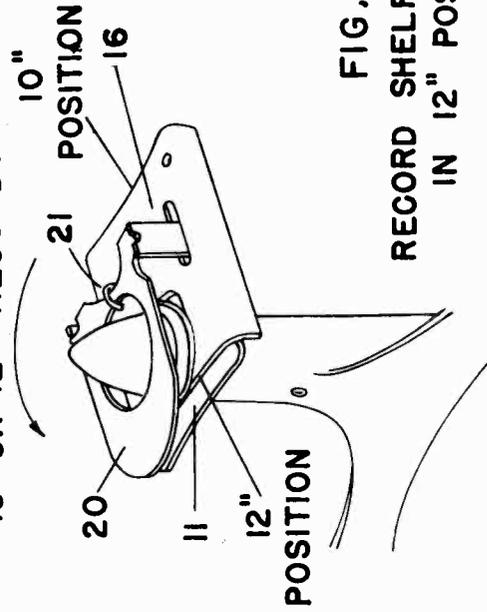

FIG. 6
For 10" records the long side of the record shelf (11) must be turned counterclockwise (Fig. 6) so that it points toward the spindle (47).
Lift the record holddown plate (20) Fig. 6 to the rear of the record shelf (11)(if it is not already there) and place two or three records on the spindle (47) and record shelf (11). Return the record hold-down plate (20) so that it rests on the records holding them in place.